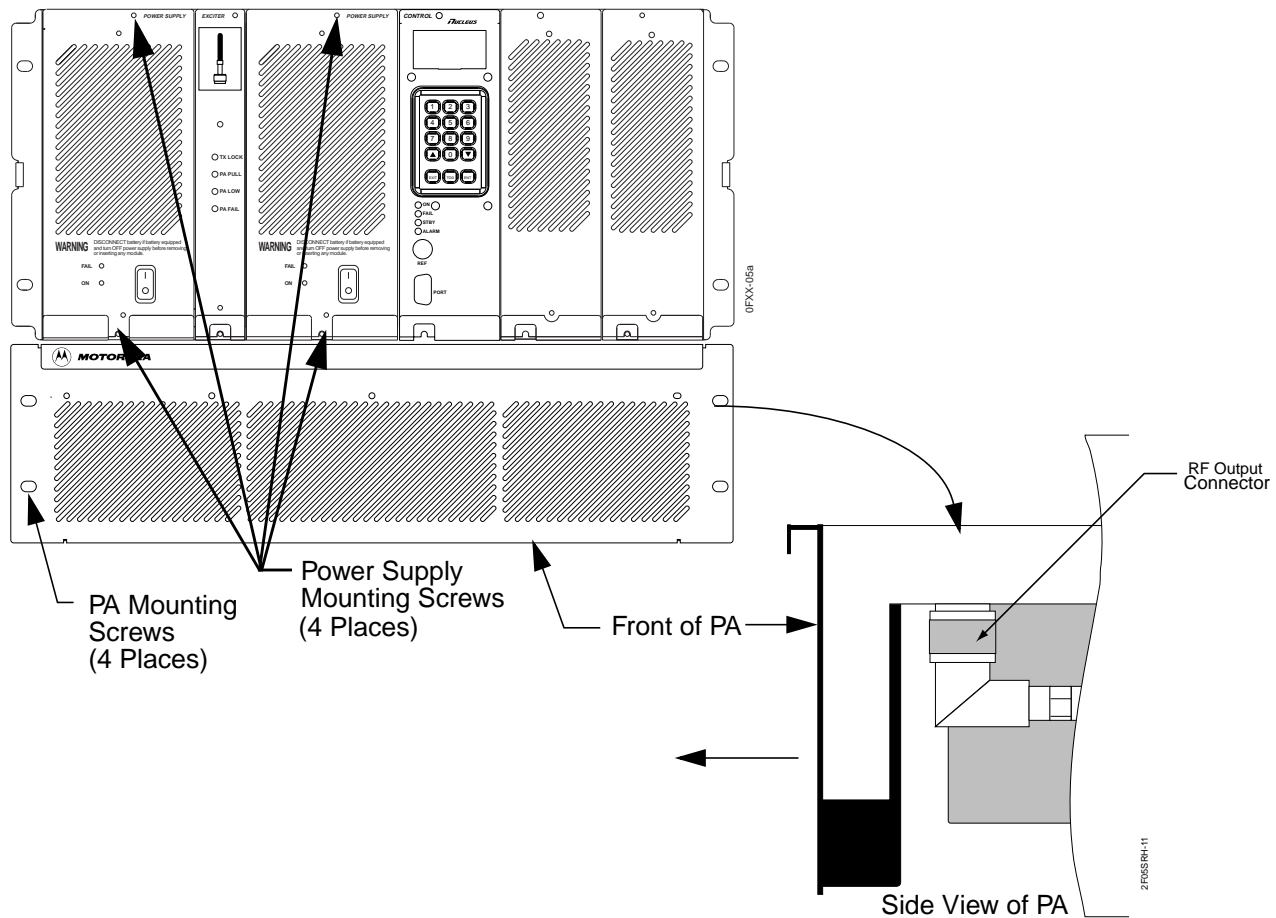

Figure 4-8: Pulling the PA from the Chassis
1. Remove the station from the packing kit (see paragraph, "Unpacking and Inspecting Equipment"). If the station is too heavy to lift from the packing carton, lighten the station by removing the two power supplies and power amplifier (PA) module from the front of the station as follows:
- a. Remove the two TORX® screws holding each power supply using a TORX screwdriver and TX15 bit (see Figure 4-8). Remove each power supply and set it aside in a safe location.
- b. Remove the four TORX screws holding the PA in the cage using a TORX screwdriver and TX30 bit (see Figure 4-8).
- c. Slide the PA partially out of the chassis to gain access to the RF output cable (see Figure 4-8).
- j. Connect the RF power connector to the RF output connector on the PA (see Figure 4-8).
2. Lighten the station by removing the power supplies, power amplifier (PA) module, fan panel and the rear cowling from the station chassis as follows:
- e. Pull the PA out of the chassis approximately 5 in. (see Figure 4-8).
- f. Disconnect the RF cable located at the right front of the PA (see Figure 4-8).
- a. Place the PA in the PA slot and slide partially into the chassis (see Figure 4-8).